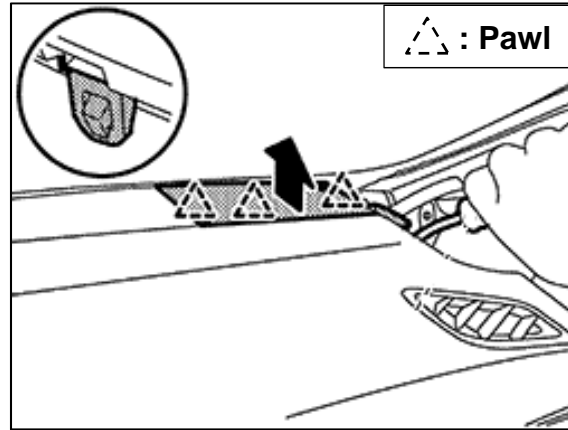

Figure 114
77. Using a remover tool, disengage the three (3) RH speaker grille fixing pawls, as indicated by the arrow in Figure 114, and then remove the RH speaker grille.